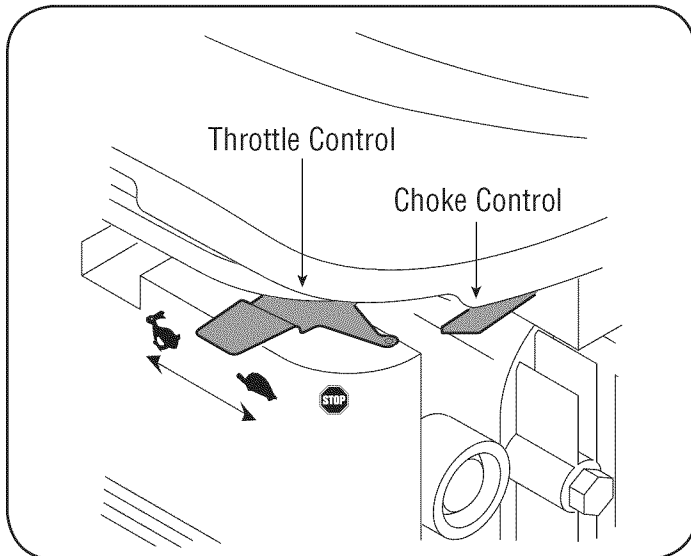

Figure 12
5. Move throttle control to START/RUN (Rabbit)  position. See Figure 12.
6. Move the choke control  toward the  throttle control to choke the engine's carburetor. (A warm engine may not require choking.) See Figure 12.